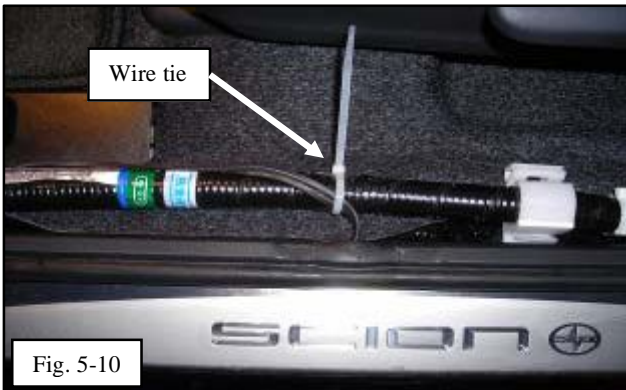

Fig. 5-10
(k) Run the harness to the OE harness and secure with one (1) wire tie as shown. (Fig. 5-10)